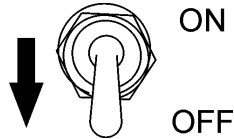

Figure 14. Idle Control Switch (OFF)
- Place the idle control switch (Figure 14) in the **OFF** (down) position. This will allow the engine speed to run at about 3600 RPM's.
Placing the idle control switch in the **OFF** position (Figure 14) allows the engine to operate at a maximum speed of about 3600 RPM's.